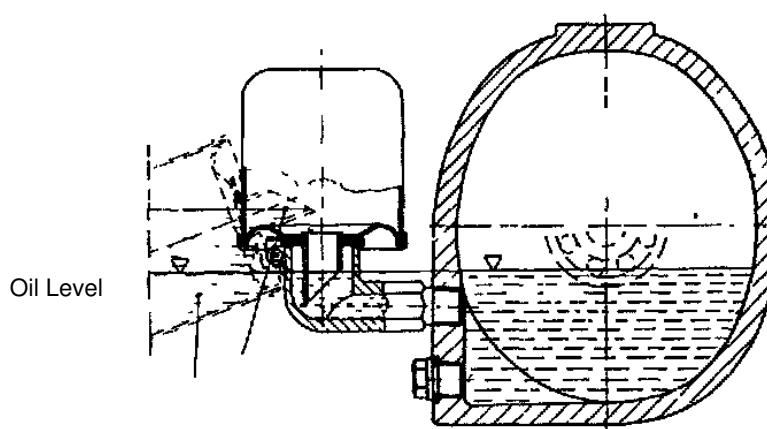

Fig.18 – Constant-Level-Oiler
- Snap the reservoir back into position. After 10 minutes, check whether the oil level in the reservoir has dropped into the support, completing this way the necessary level, which is the centerline of the inferior ball bearing indicated in the Fig. 18.